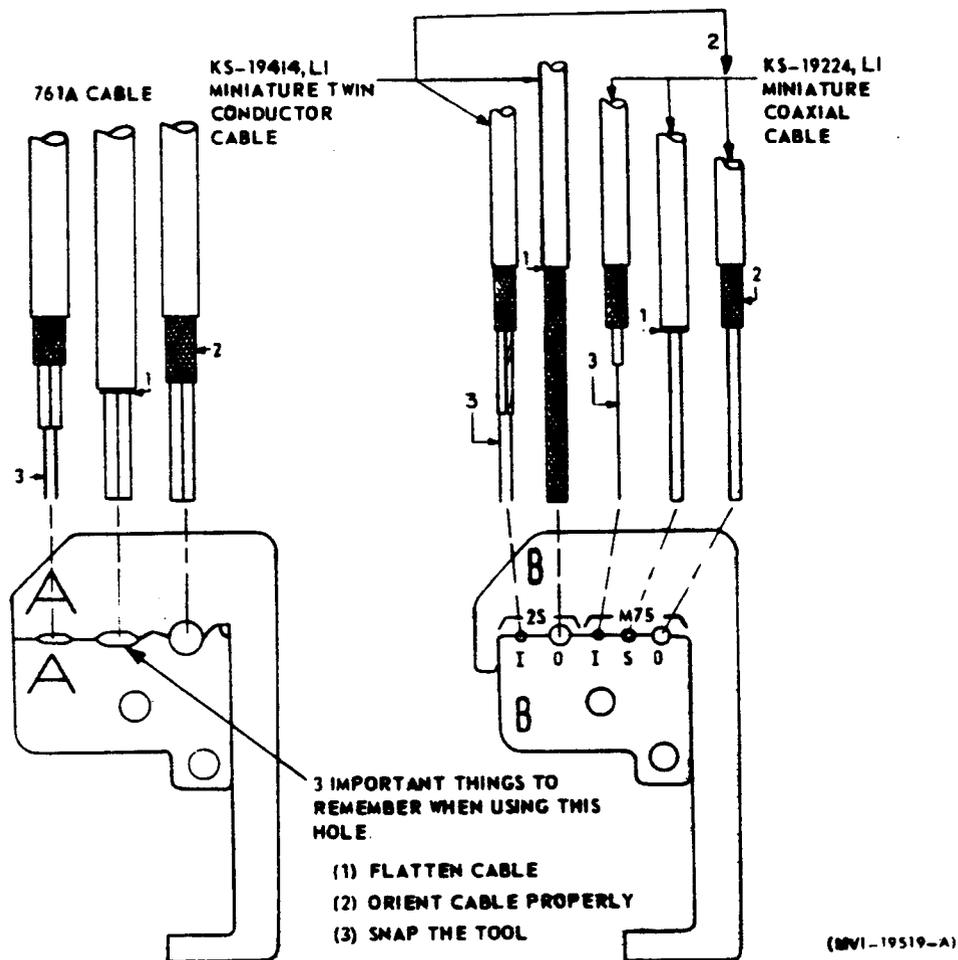

FIG. 9 SEQUENCE OF OPERATIONS FOR USING "A" AND "B" BLADES OF R-3457
4.94 For processing 761A and 762A (10 pr. 761A's) with "A" blade refer to Figures 9 and 10 and proceed as follows:
4.95 For processing the shielded pairs of 750 type cable with the "A" blade, refer to Figure 9 and proceed as follows:
4.96 For processing KS-19224-L (M75) miniature coaxial cable with the "B" blade, refer to Figure 9 and proceed as follows:
4.97 For processing KS-19414-L1&KS-20906-L (2S-WTE) miniature twin conductor cable with the "B" blade, refer to Fig. 9 and proceed as follows: